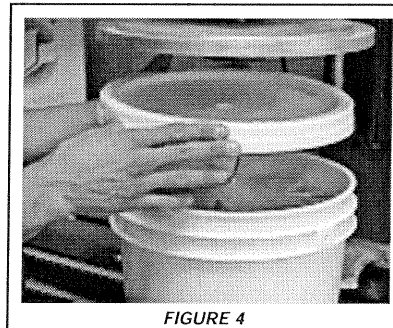

FIGURE 4
1. Begin by placing the cover over the pail. (Fig. 4)